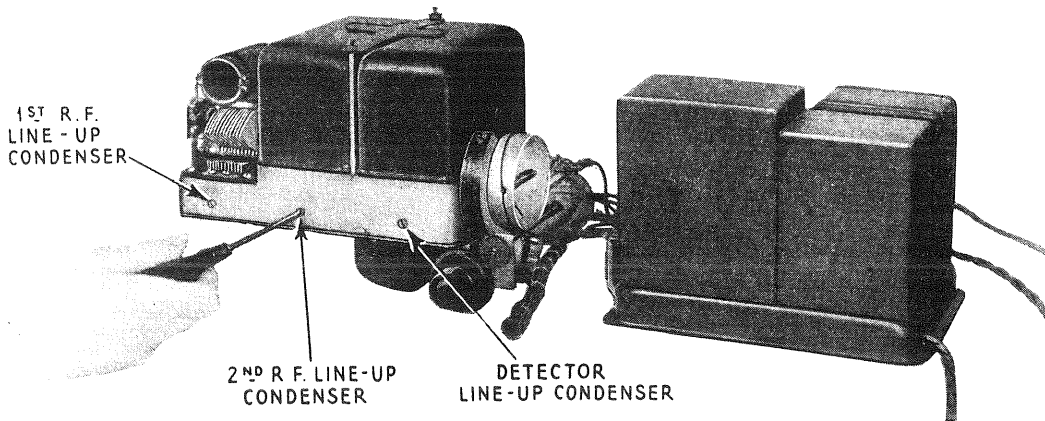

Figure 12—Method of adjusting the line-up condensers
- (d) Place Local-Distant Switch at "local" position and adjust the three condensers successively from the detector stage to the antenna stage (See Figure 12), for the position of the loudest signal. This may be done with any type of screwdriver, as the adjusting screws are at ground potential.